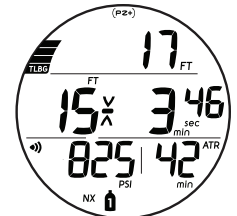

Fig. 98 - SS MAIN
**SAFETY STOP MAIN (On)**, information includes (Fig. 98):